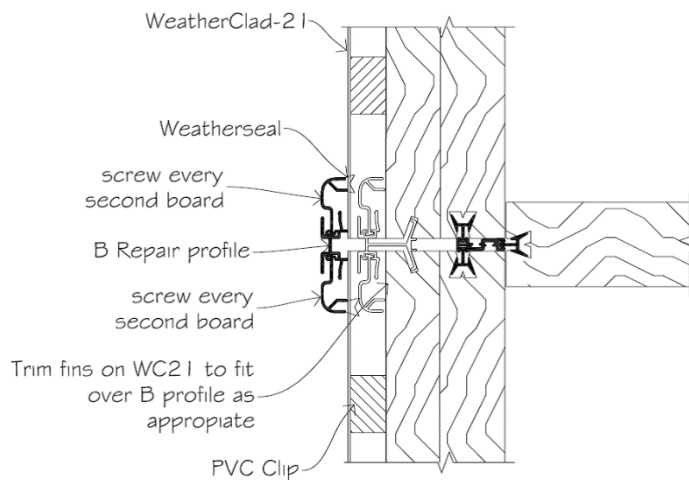

Fig.3
- The cladding comes in 6.35 metre lengths only, and in some cases full height jointers (B repair profiles) will be required (refer to Fig.3). This must be determined before the fixing of the wall